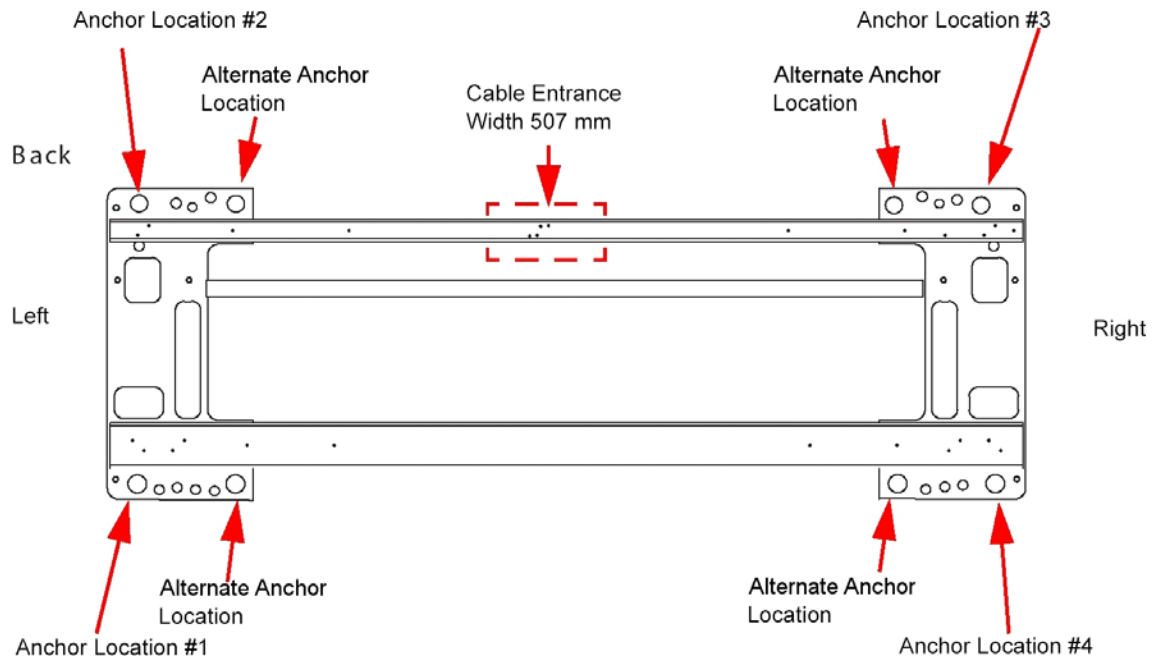

Figure 1-12 Gantry Base "Adjuster" Locations - Top View
- 2.) Systematically turn each of the gantry's adjusters (locations 1, 2, 3 and 4 in Figure 1-12) until both bubble levels are centered left to right and front to back.